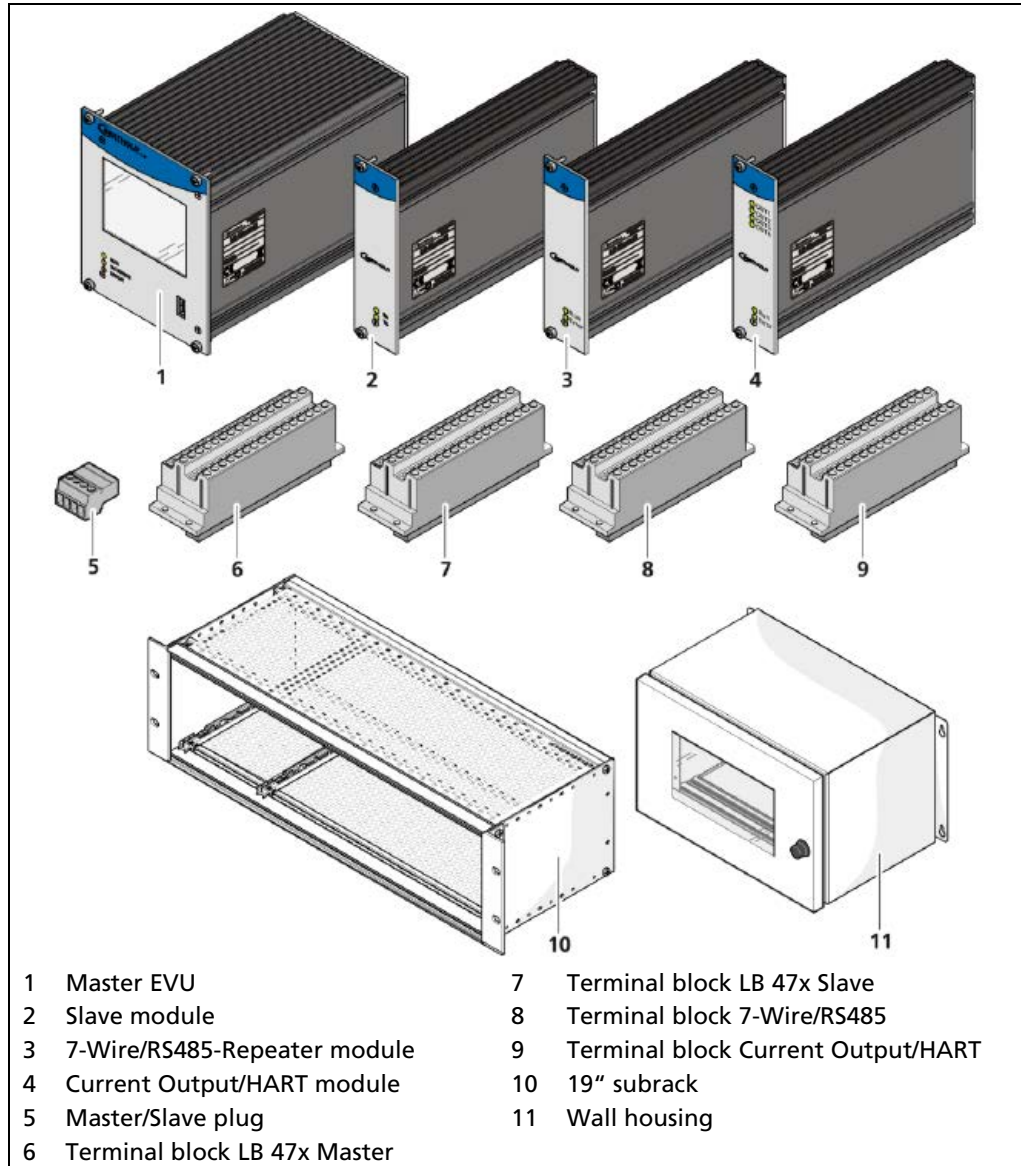

Fig. 3 System components
The master EVU and the slave module Fig. 3, item 1, item 2) are available with a wide range (100-240 V AC, 50/60 Hz) or with a 24 V supply (18-32 V DC). The 7-Wire/RS485-Repeater module and the Current Output/HART module are available in 100-240 V AC or 24 V DC versions.